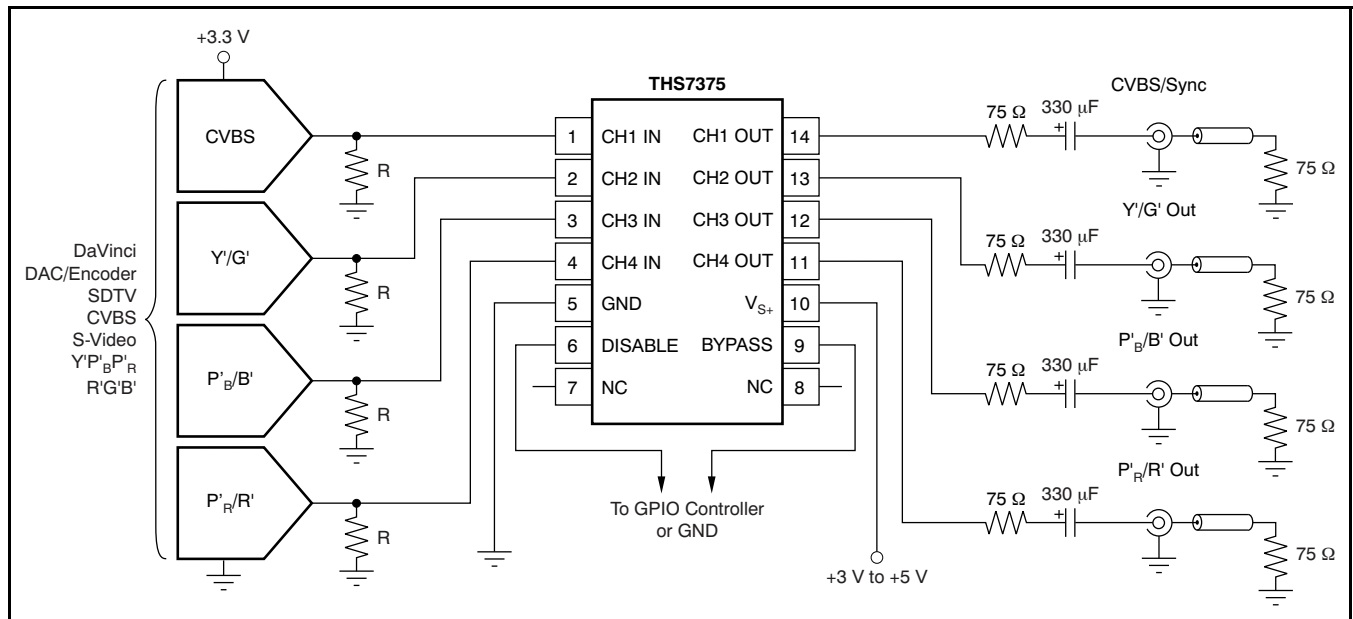

Figure 48. Typical SDTV CVBS/ $Y'P'_B P'_R$  Inputs from DC-Coupled Encoder/DAC with AC-Coupled Line Driving
A typical application circuit that uses the THS7375 as a video buffer is shown in Figure 48. It shows a DAC or encoder driving the input channels of the THS7375. One channel is a composite video (CVBS) channel of a standard definition (SD) video system. The other channels are the component video  $Y'P'_B P'_R$  (sometimes labeled  $Y'U'V'$  or incorrectly labeled  $Y'C'_B C'_R$ ) signals of a 480i or 576i system. These channels could easily be the S-Video  $Y'/C'$  channels or the  $R'G'B'$  channels of a SCART system.